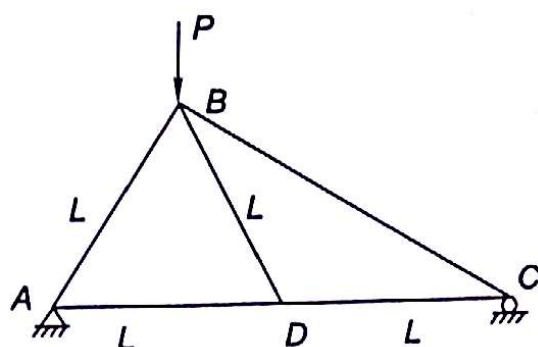

Fig. 4.30
- 4.1 A truss $ABCD$, is loaded by a vertical load P at joint B as shown in Fig. 4.30. Length of members $AB = BD = AD = DC = L$, what is the tensile force in member AD ?